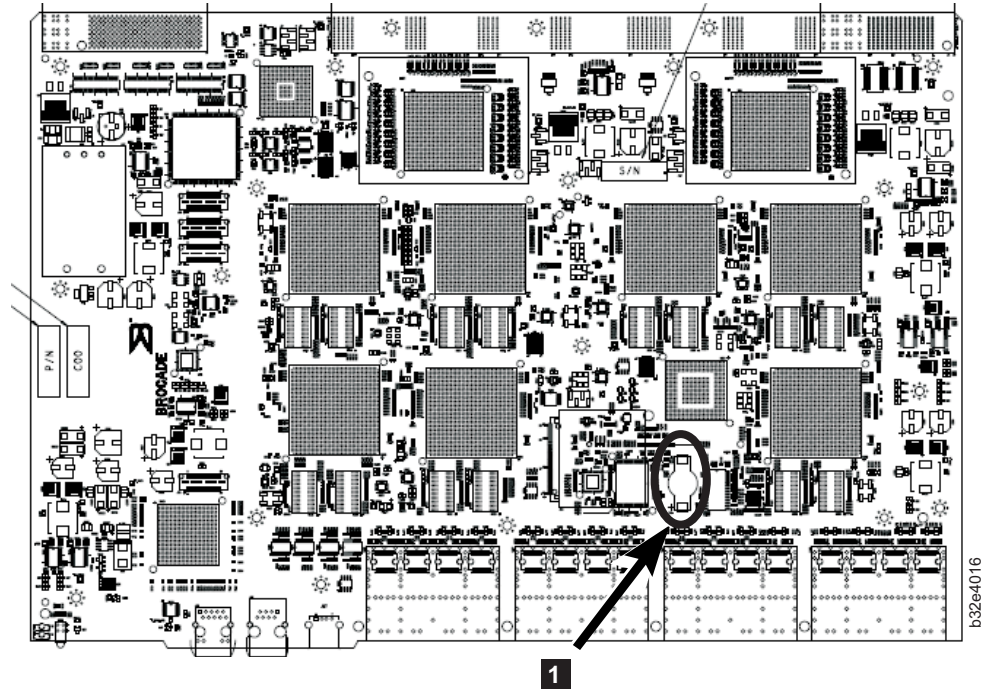

Figure 53. Encryption blade battery location
7. For the optional FS8-18 encryption blade, go to the BC1 location (see **1** in Figure 53 on page 113) on the main board and remove the BR1225 battery.